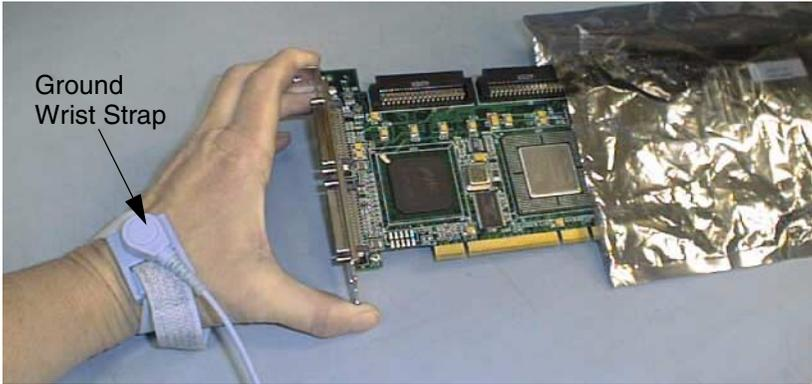

Figure 2-7. Remove the controller from the Anti-static Bag
3. Remove the AcceleRAID 352 controller from the anti-static bag as shown in Figure 2-7. Always handle the controller by the edges and wear a ground wrist strap.